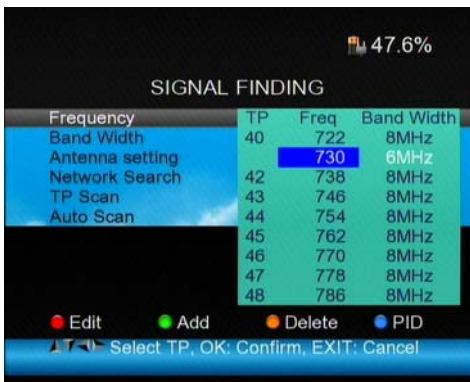

Figure9. Edit Frequency
- (3) Edit frequency: Press <RED> button to edit the frequency by numeric numbers. Press <Up/Down> button to select the Band Width. And then Press <OK> button to confirm the operation and save the result. Or press< EXIT> button to cancel the operation. See figure 9.